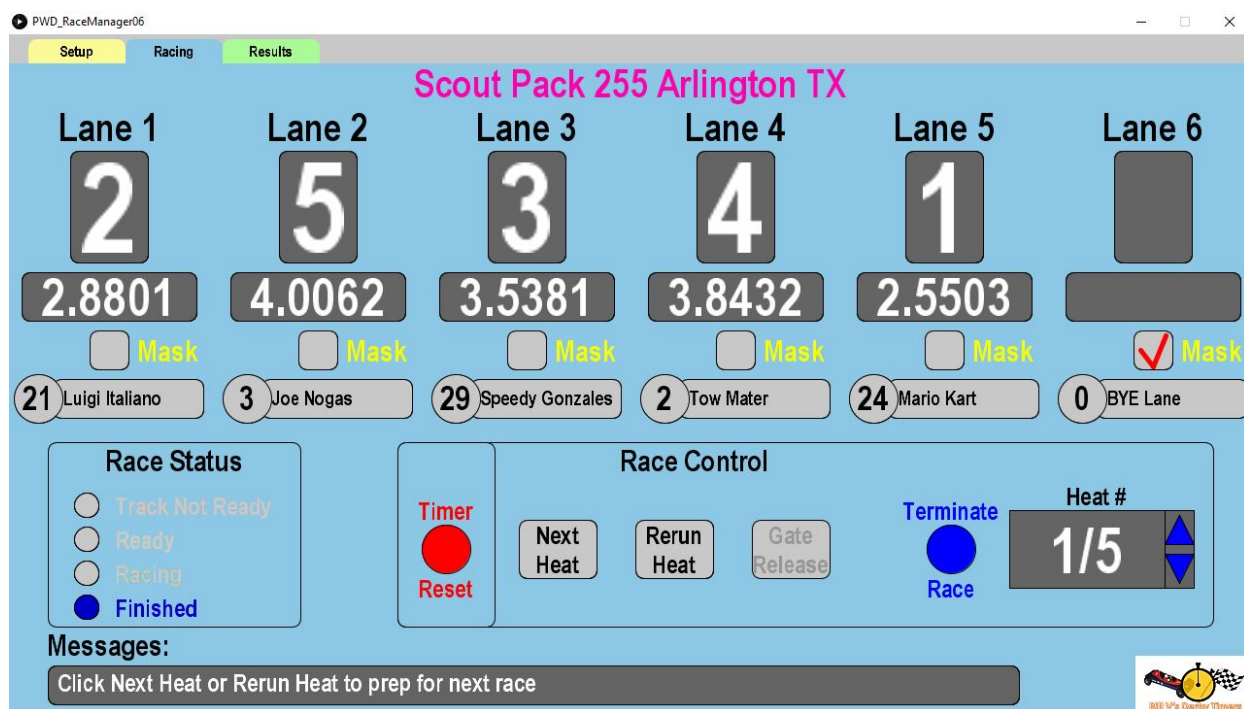

Figure 10 –Lane Mask Example
Lane Mask Checkboxes	<ul style="list-style-type: none">• Alternately displays or clears a check-mark in the checkbox each time it is clicked (See Figure 10).• Sends the appropriate lane mask and un-mask commands to the Arduino timer.
6. If any lanes are designated as a BYE lane a check-mark will appear in the appropriate Mask checkbox to designate it as such and "BYE Lane" will be displayed in the name box (See Fig. 10).
The 'Mask' checkboxes alternately display or clear a check-mark in the checkbox each time it is clicked. Manually checking a 'Mask' checkbox should only be done when running a practice heat in which less than 6 cars are racing. When checked, it sends the mask command for that lane to the Arduino timer. When unchecked it sends the unmask command for that lane to the Arduino timer. The Arduino timer will ignore any masked lanes (i.e. not wait for them to time out) while the race is in progress. Figure 10 shows an example of an automatically checked lane mask box when the automatically generated race plan includes a BYE lane designation in a heat.